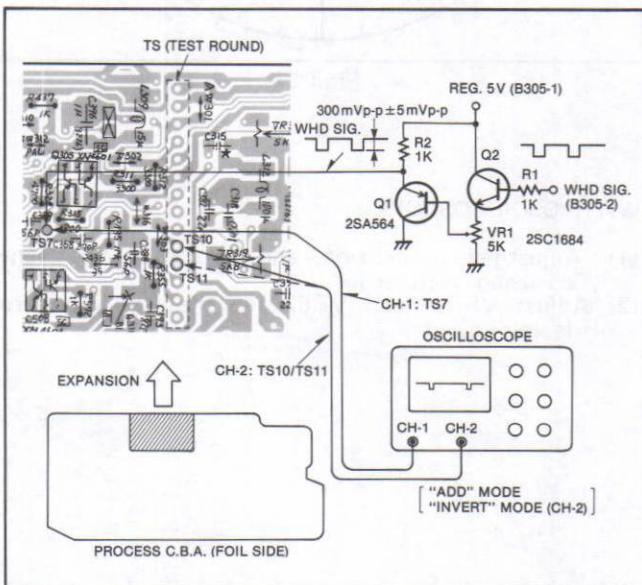

Fig.C18-1
- (1) Cover the camera lens with the lens cap.
- (2) Supply the "WHD" signal(B305-2:process C.B.A) to TS7(test round) through the Buffer circuit and adjust VR1(on Buffer circuit) so that the voltage of TS7(test round) becomes 300mVp-p±5mVp-p as shown in Fig.C18-1.